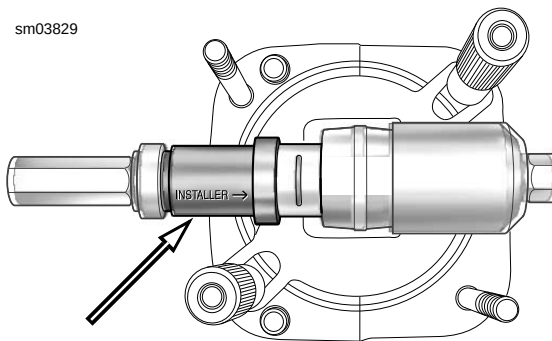

Figure 3-85. Installer Side of Driver
6. See Figure 3-85. Place **new** bushing between connecting rod and driver.